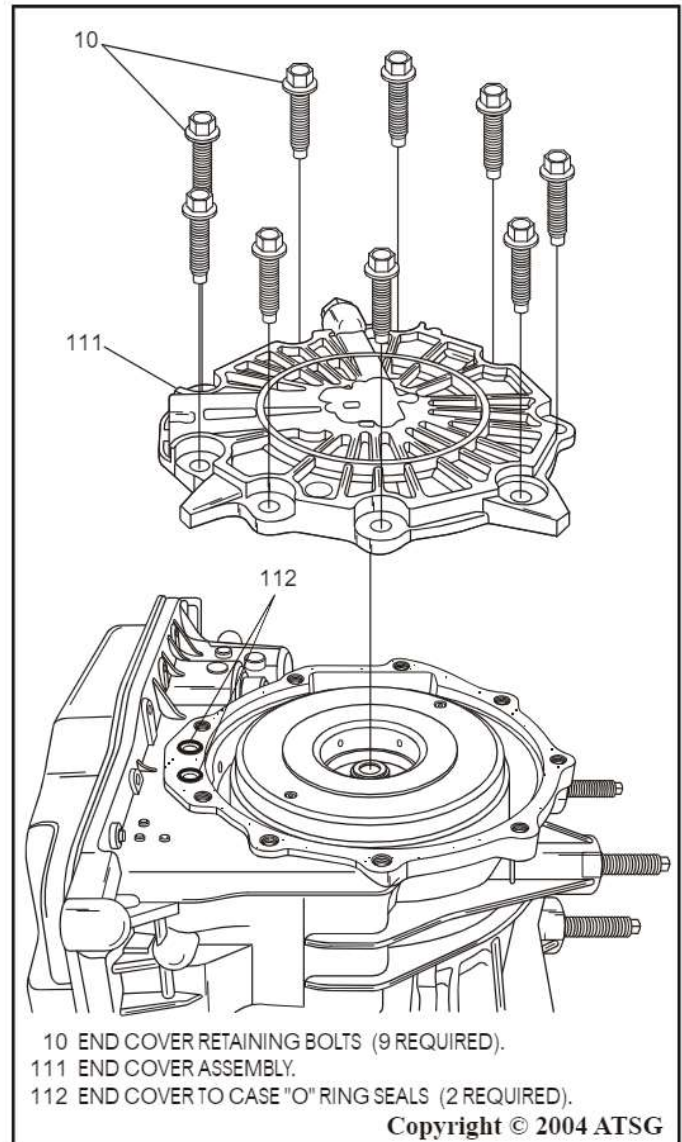

Figure 179
54. Install the completed end cover onto transaxle, as shown in Figure 179.
- Note:** Ensure that "O" ring seals are still in place, as shown in Figure 179.
55. Install the nine end cover retaining bolts, as shown in Figure 179.